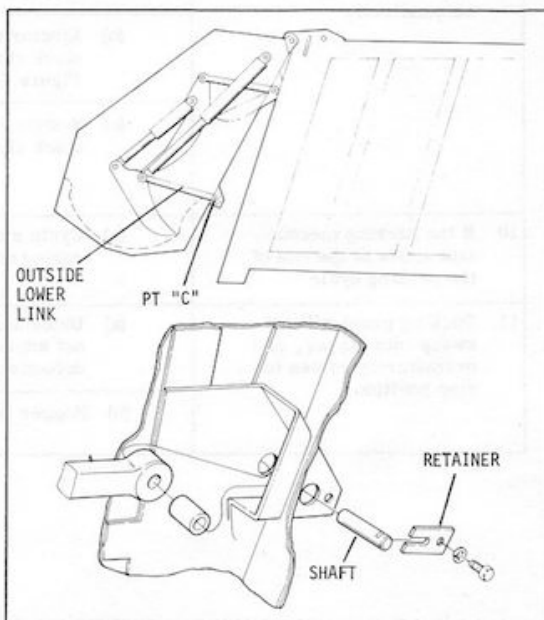

Figure 3-15. Outside Lower Link Removal
- f. Remove retainers and shafts from the outside lower links (point "C", figure 3-15).